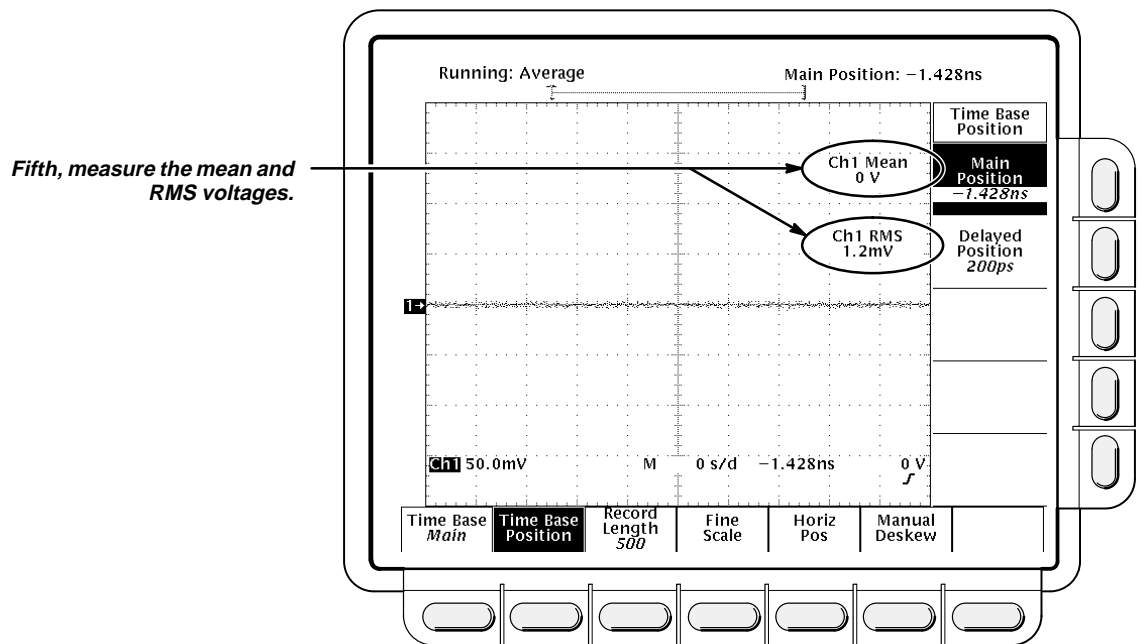

Figure 1-27: Trigger Delay Jitter Channel Noise
- Read the mean and RMS voltages from the readout display. See Figure 1-27.
- Using the general purpose knob, slowly adjust the time base position a small amount until the displayed waveform starts at 0 V (at the left center of the screen) and the mean readout is as close to 0 V as possible. See Figure 1-27.